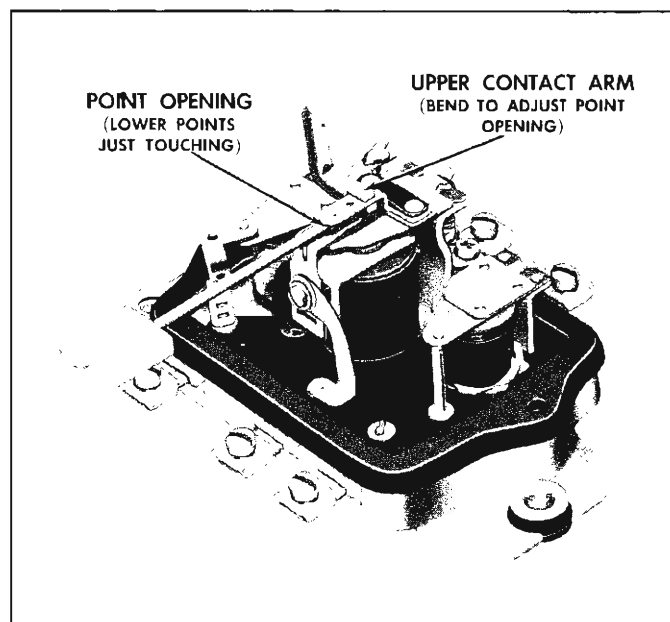

Fig. 29—Adjusting Voltage Regulator Point Opening
1. **POINT OPENING:** With the lower contacts touching, measure the point opening between the upper contacts as shown in Figure 29. Adjust by bending the upper contact arm (fig. 29).